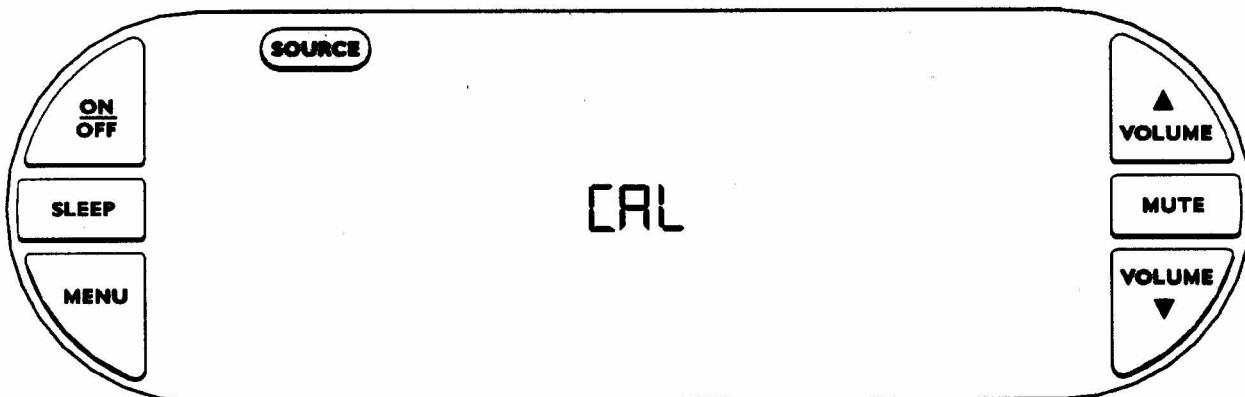

Figure 5. First Calibration Screen
**Note:** Refer to figures 5, 6 and 7 for the following procedures. The following calibration tests can be performed with or without the Multi-Room Interface.